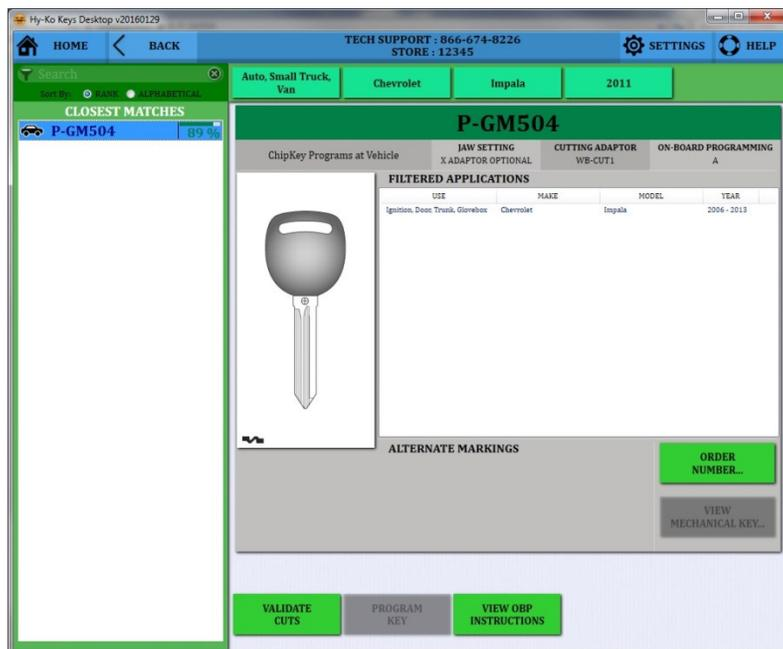

fig. 108
- Once you have completed cutting the key you can return to the Vision Box to validate the cuts on the new blank in relation to the customer's key (see fig. 108).